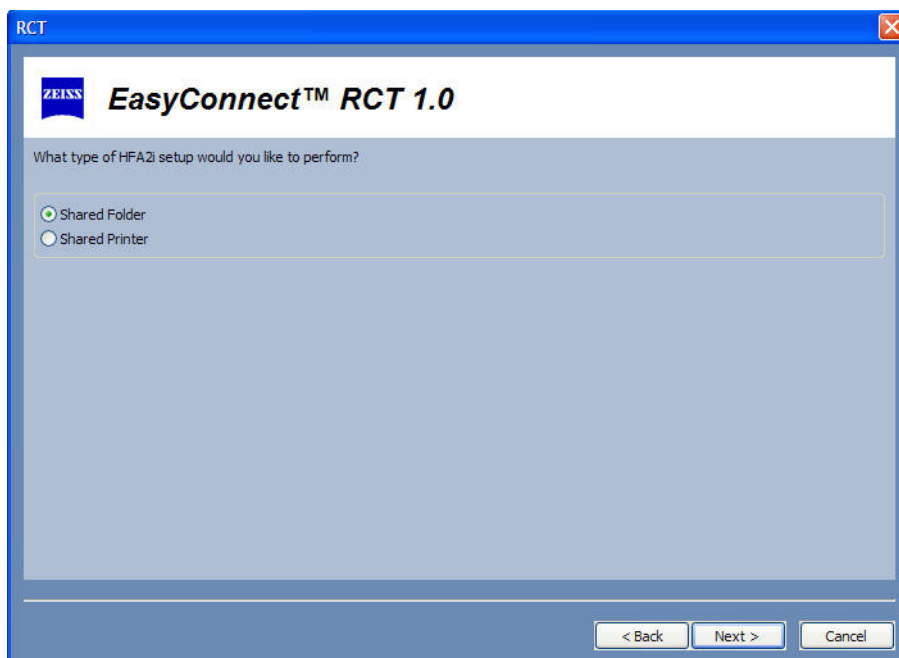

Figure G.25 Select Shared Folder
- 3 Select either the SHARED FOLDER or SHARED PRINTER button (Figure G.25). Select NEXT.